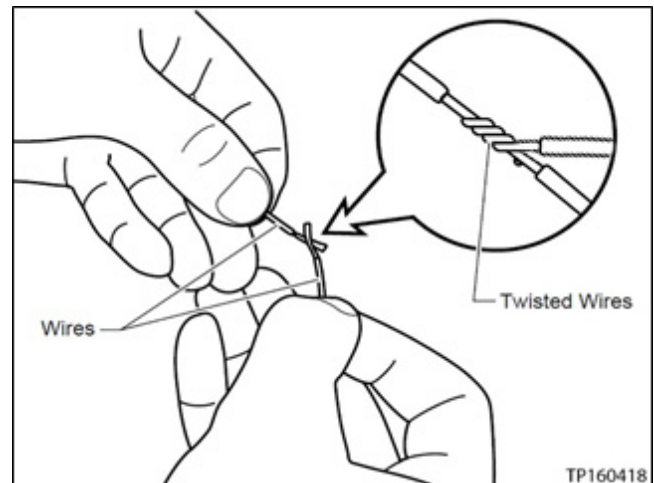

Figure 39
44. Now twist the third grey wire from Joint connector – ED1 (Figure 39) that was cut through in step 32 to form a three way connection.